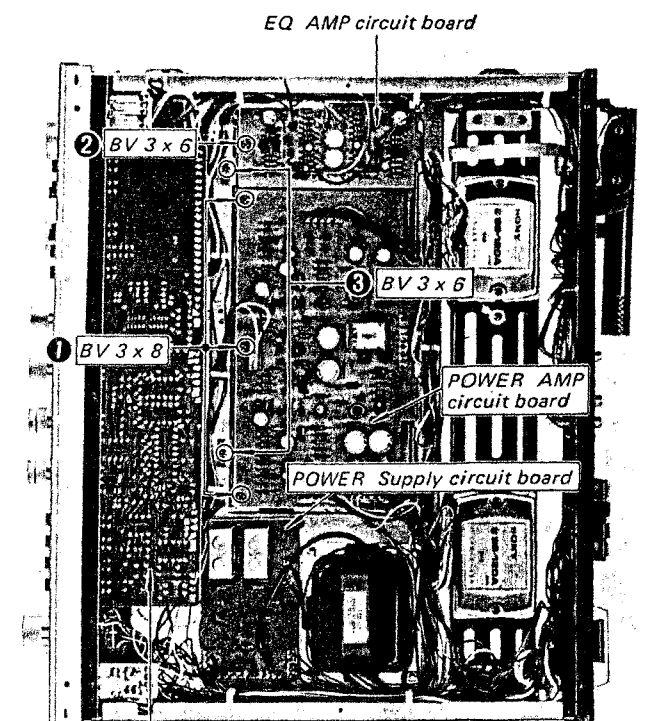

Fig. 2-6.
2. See Fig. 2-6.
2. Remove two BV 3 x 6 screws (3) securing the power amp and EQ amp circuit boards to the shield plate as shown in Fig. 2-6.